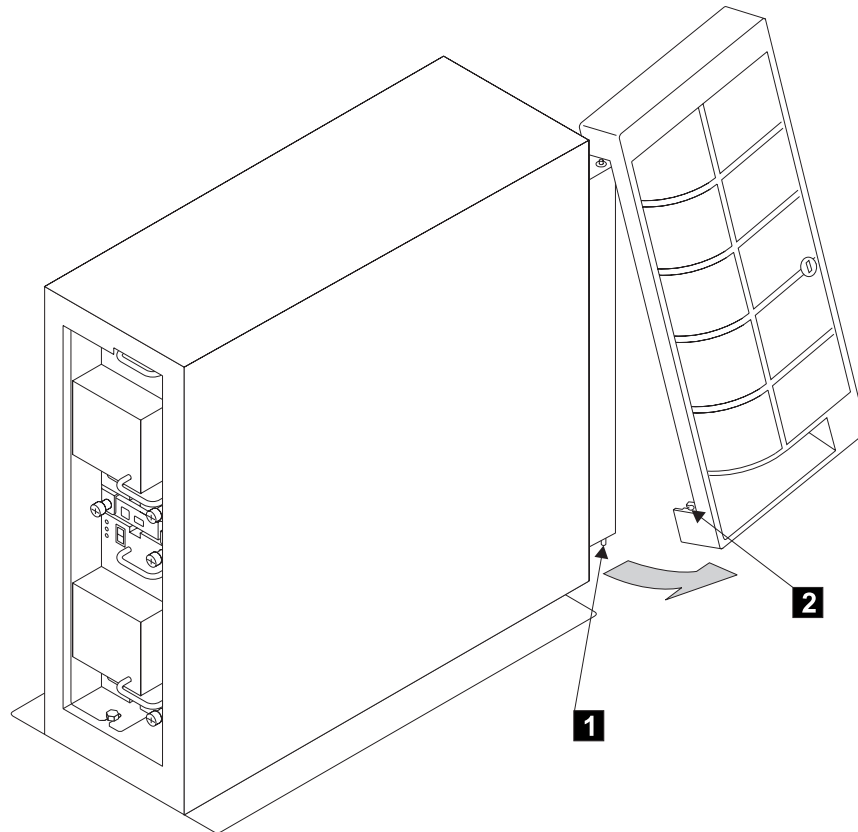

Figure 22. Removing the Front Cover of a 2104 Model TU3 (1)
- Step 5. If you want to remove the cover, refer to Figure 22 on page 67.